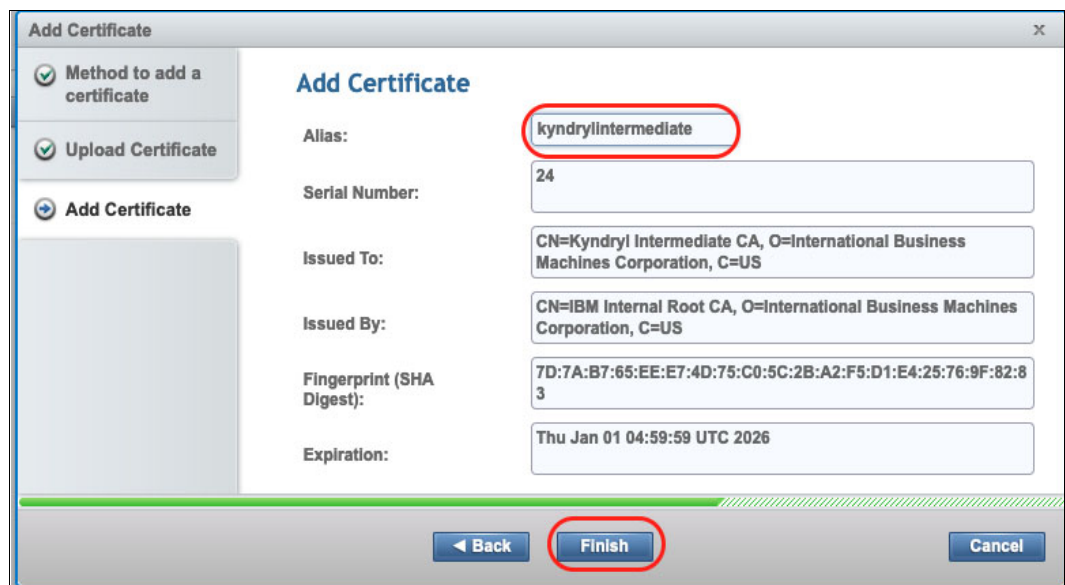

Figure J-7 Assigning an alias for the new certificate and completing registration
4. Verify that the properties of the uploaded file correspond to the target certificate. Then, assign an alias that identifies it in the TS7700 truststore (as shown in Figure J-7). Click **Finish** to complete the process.